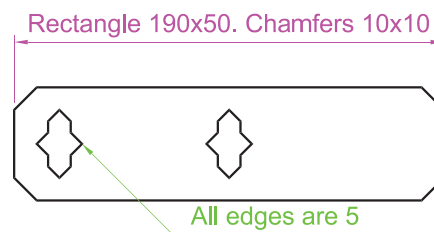

Fig. 5.23 Example – Move – drawing
1. Construct the drawing shown in Fig. 5.23.